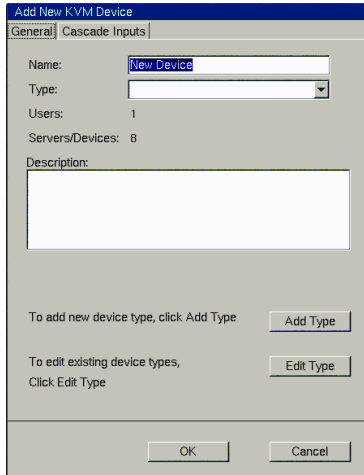

Figure 35 Add New KVM Device box
Click . The Add New KVM Device box appears. See Figure 35.
2. Type a name for the Legacy switch type (This is not the same as the Name field in Figure 35. This is name of the switch type that will appear in the Type drop-down menu in Figure 35).
In the Add New KVM Device box Figure 35, click the Cascade Inputs tab. Figure 39 appears.